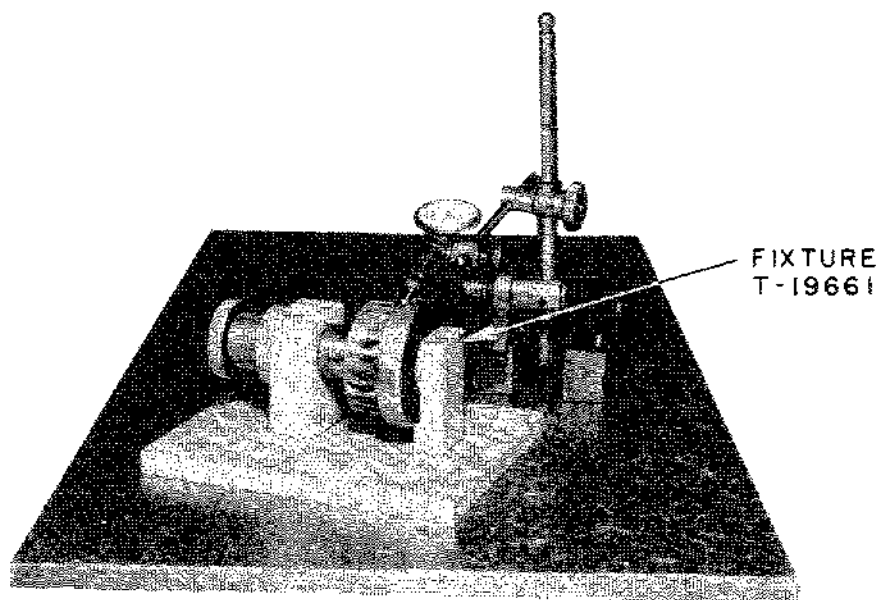

FIGURE 29 CHECKING THE CONCENTRICITY OF THE ROTOR
2. Place the rotor in fixture T-19661 and tighten the adjusting screw until the rotor has no end-play between the bearings, yet does not bind. (See Fig. 29.)